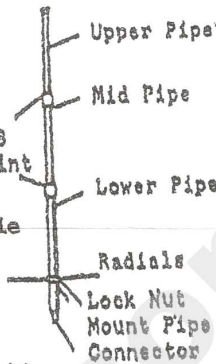

Fig. 3
- (B) Insert Mid Antenna Pipe to Lower Ant. Pipe. Then, assemble Lower Lock Screw and Mid Joint Receptacle with rubber washer strongly. (See Fig. 3)